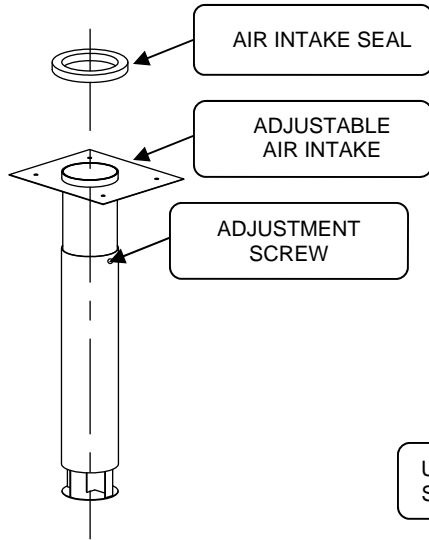

Figure 2
- Step 5. Insert the air intake into the 4 3/4" diameter hole in the floor and fasten to the floor with the (4) screws provided.
- Step 6. Place the air intake seal on top of the air intake mounting flange and around the 3" diameter tube (see Figure 2).